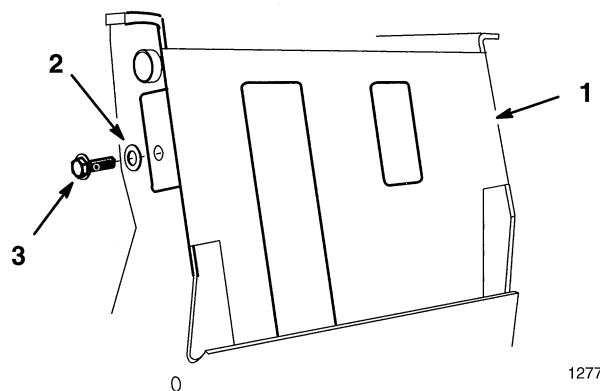

Figure 5
4. Remove rear panel behind gas tank (Fig. 5). Save all hardware for use when installing rear panel.